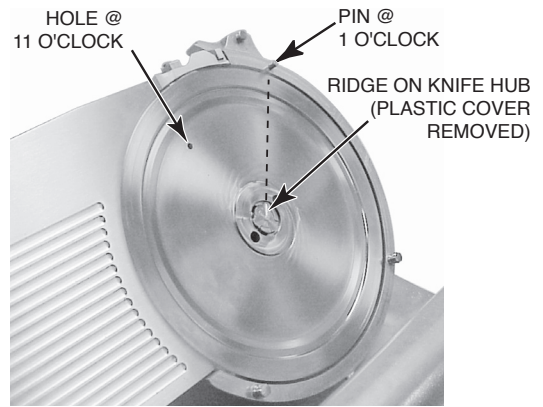

Fig. 19
- Rotate the KNIFE using your hand on the back of the knife, the arrow on the KNIFE must align with the PIN on the RING GUARD at the 1 o'clock position (Fig. 19).